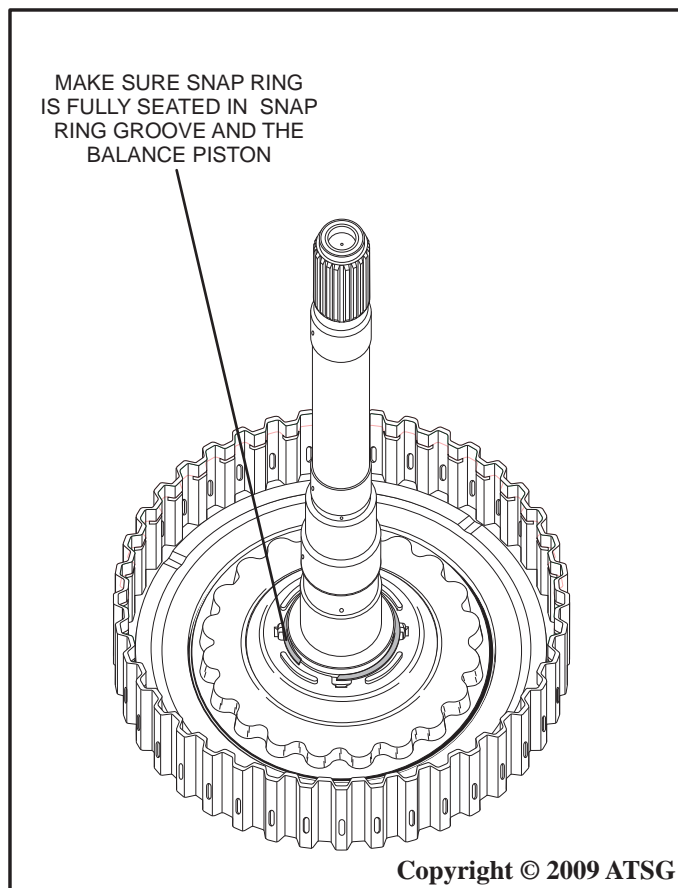

Figure 96
8. Make sure the snap ring is fully seated in the snap ring groove and the balance piston as shown in Figure 96.